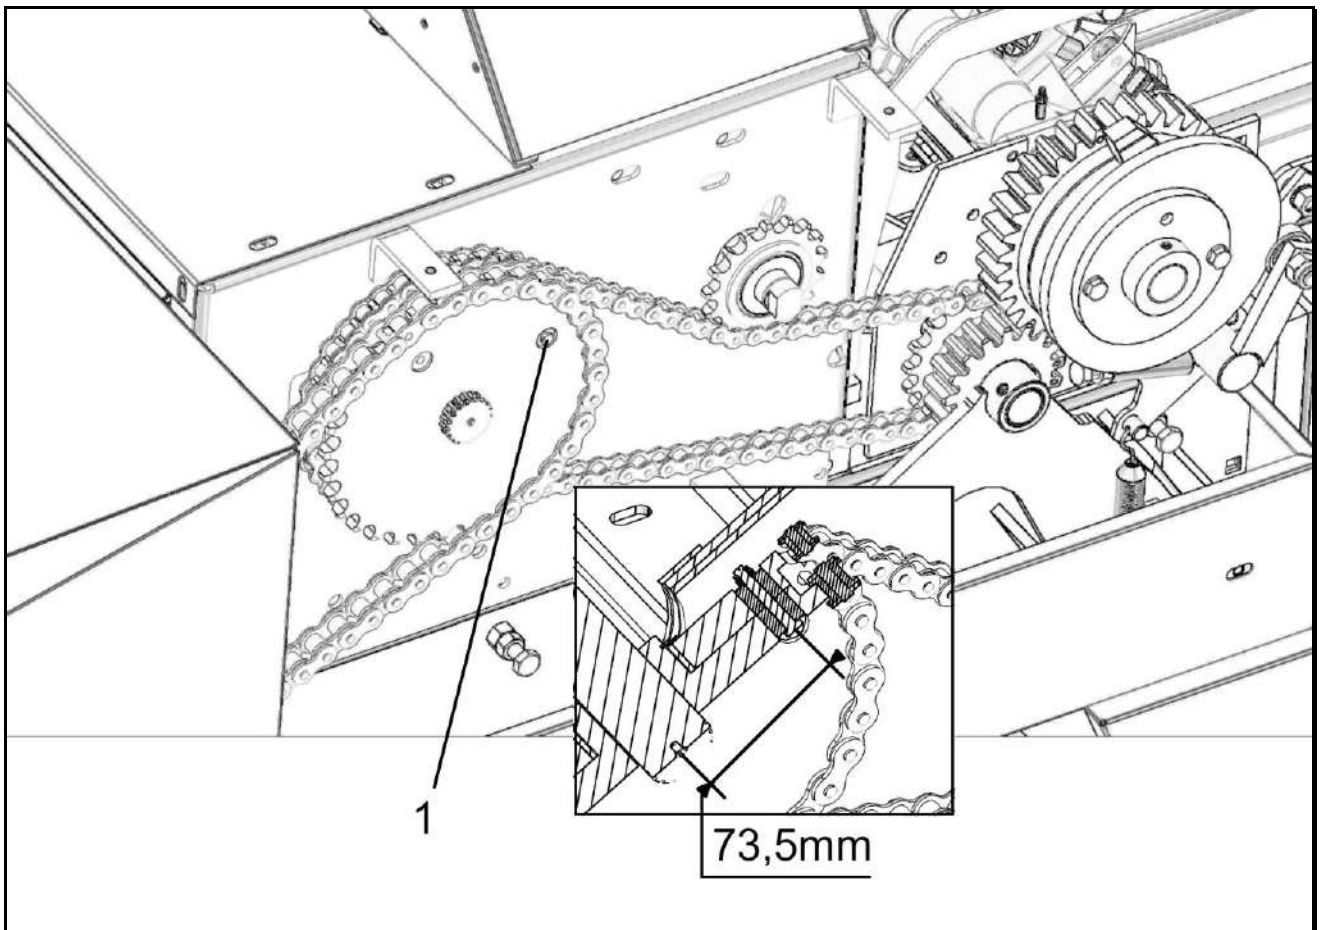

Fig. 6.5
Shear bolt M5x45 mm, class 8.8 with self-locking nut (ref. 1, Fig. 6.5).
This bolt (no. 1, Fig. 6.5) is designed to protect the various knotter components when there is excessive resistance in the upward movement of the needles and movement of the knotter.